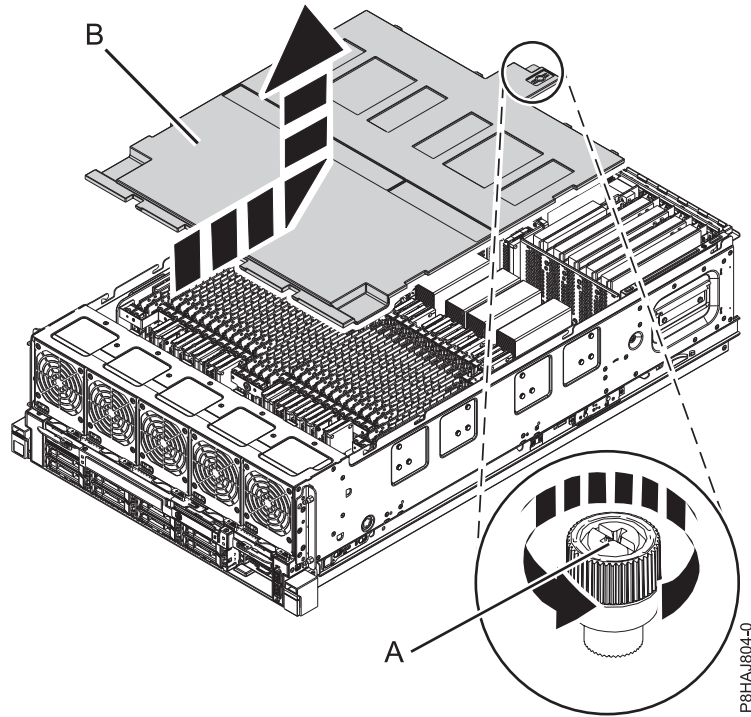

Figure 35. Removing the safety cover
2. Loosen the thumbscrew (A) located at the rear of the cover, by turning it in the direction shown in Figure 35 on page 55.
3. Slide the safety cover (B) toward the rear of the system. When the front of the cover has cleared the upper frame ledge, lift the cover up and off the system.